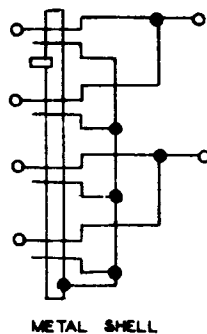

Fig. 11—312A or B Plug
2.10 312A and B: The 312A and B (Fig. 11) are four finger plugs in which the sleeves and shells are connected together to form a shield for the tip conductors. The plugs are not designed for cord connections, but are arranged for a 308A plug through two holes in the rear of the shell.